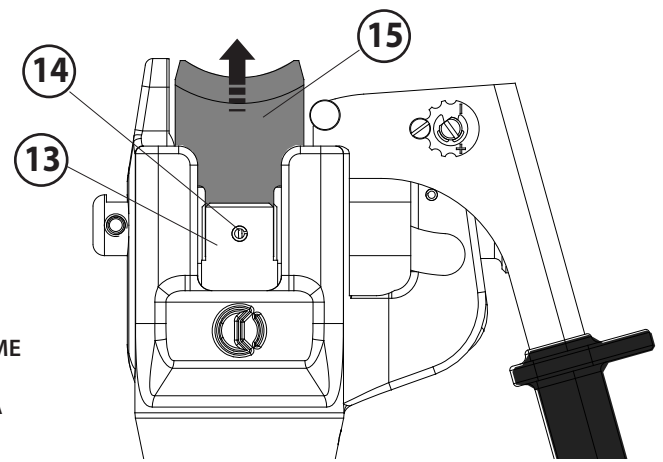

FIG. 7
4.3) Blade changing (Ref. to Fig. 7)